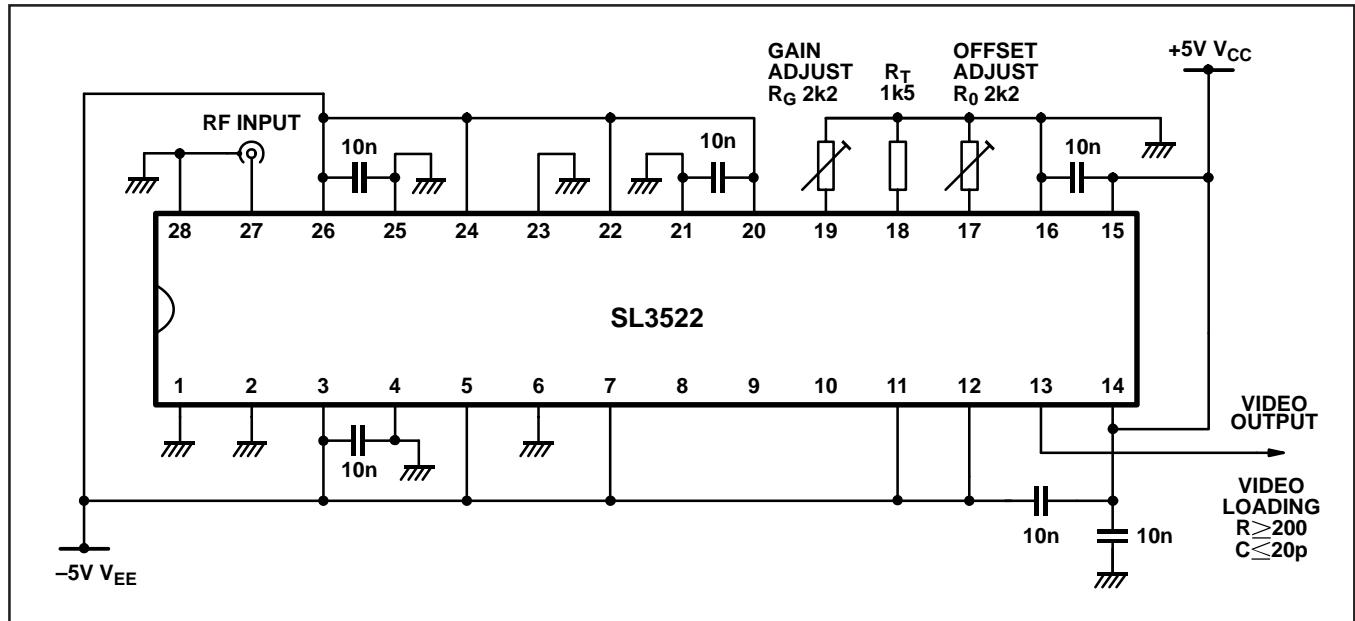
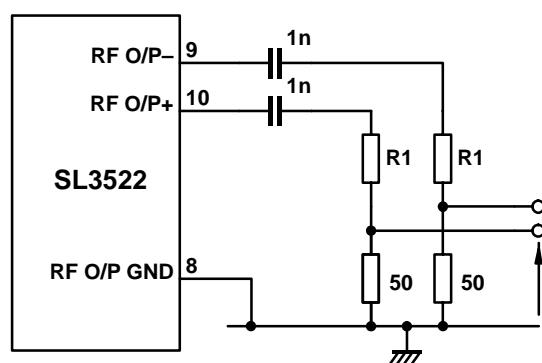

Fig.5 Application circuit successive detection logarithmic function only
Fig.9 Network for attenuating limited RF output
a) Gain and Offset trimming (ref Applications circuits in figs 5 and 6)
If the SL3522 is to be used as a Logarithmic successive detection amplifier only, with no requirement for a limited RF Output, the RF input (pins 27 and 28) can be driven EITHER differentially or single ended from a 50Ω source. If being used with a single ended input, the SIGNAL should be applied to pin 27 and the RETURN should be connected to pin 28, as shown in the Application circuit diagram in Fig 5.
If required the limited RF Output can be attenuated using an attenuation network as shown in fig. 9. Under these conditions the effective RF Output currents will be reduced, allowing the device to operate with a greater margin of stability. It may be possible to run the device without a BALUN transformer on the RF input if the total output impedance on the RF Output $\gg 50\Omega$, and the attenuation components are mounted as close as possible to the RF Output connections (pins 9 and 10). The RF input connection could then be configured as in Fig 5.